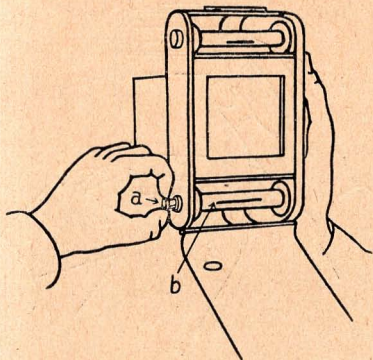
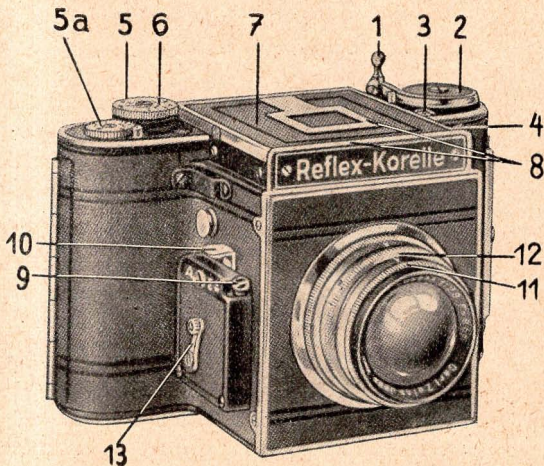

fig. 1
fig. 3
Pull out the knob which holds the film in position (fig. 1) as far as it will come and then turn it slightly to the right. You can now insert the film with the red or green backing paper upward. Turn the film holding knob slightly to the left and it will spring back into position and securely hold the film. Now split the gummed paper on the film and draw the backing paper over the rollers and insert it in the longer slit on the take up spool. Make certain that the film is running quite straight. It is now advisable to give the lever (no. 1 on fig. 3) a *complete* turn.
This winds the shutter ready for the first exposure. After closing the back continue to wind on the film by a series of short movements of the same lever until the figure 1 on the film appears in the window at the back of the camera.
When figure 1 on the film appears in the window press the small button (no. 4 on fig. 3) of the film counter, the film counter will then automatically spring back to number 1. The red window at the back can now be covered up and ignored. The number of the exposures will appear
in the small square of the film counter (no. 3 on fig. 3). If the above instructions have been followed the camera will now be ready for the first exposure after the desired shutter speed has been determined.
The focal plane shutter speeds are set by lifting the speed disc and revolving it until the desired speed is opposite the black dot (no. 5 and 6 on fig. 3). This movement can be carried out either before or after winding the shutter. On both models the slow speeds can be obtained by first winding the shutter placing B opposite the black
6. *Exposing the film* is done by gently pressing the trigger release (no. 10 on fig. 3). Perform this operation as smoothly as possible to avoid any possibility of the camera shaking. To get ready for the next exposure:
- a) when using model Ia and IIa: first turn the knob (no. 1 on fig. 3) *one complete turn* this winds the shutter and partly winds the film, a small supplementary turn will now complete the winding of the film, — this second turn is automatically stopped at the correct position.
- b) When using model Chrom III: One complete turn of the knob (no. 1 on fig. 3) is the only movement necessary to prepare the Camera for the next exposure.
Using the Direct Vision Finder (No. 8 on Fig. 3).